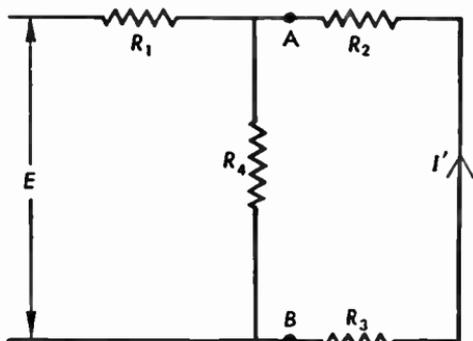

Fig. 2.24a Series-parallel circuit.
2.24 In the circuit of Figure 2.24a,  $E = 100$  volts,  $R_1 = R_2 = R_3 = R_4 = 5$  ohms. Find  $I'$ .